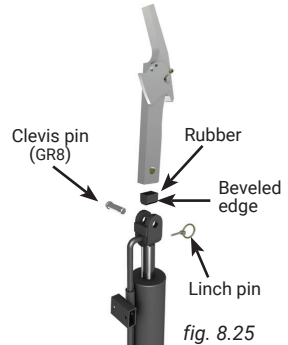

fig. 8.25
- 1- Remove the linch pin and slide out the clevis pin (GR8) (fig. 8.25). Lift the hook from the cylinder.